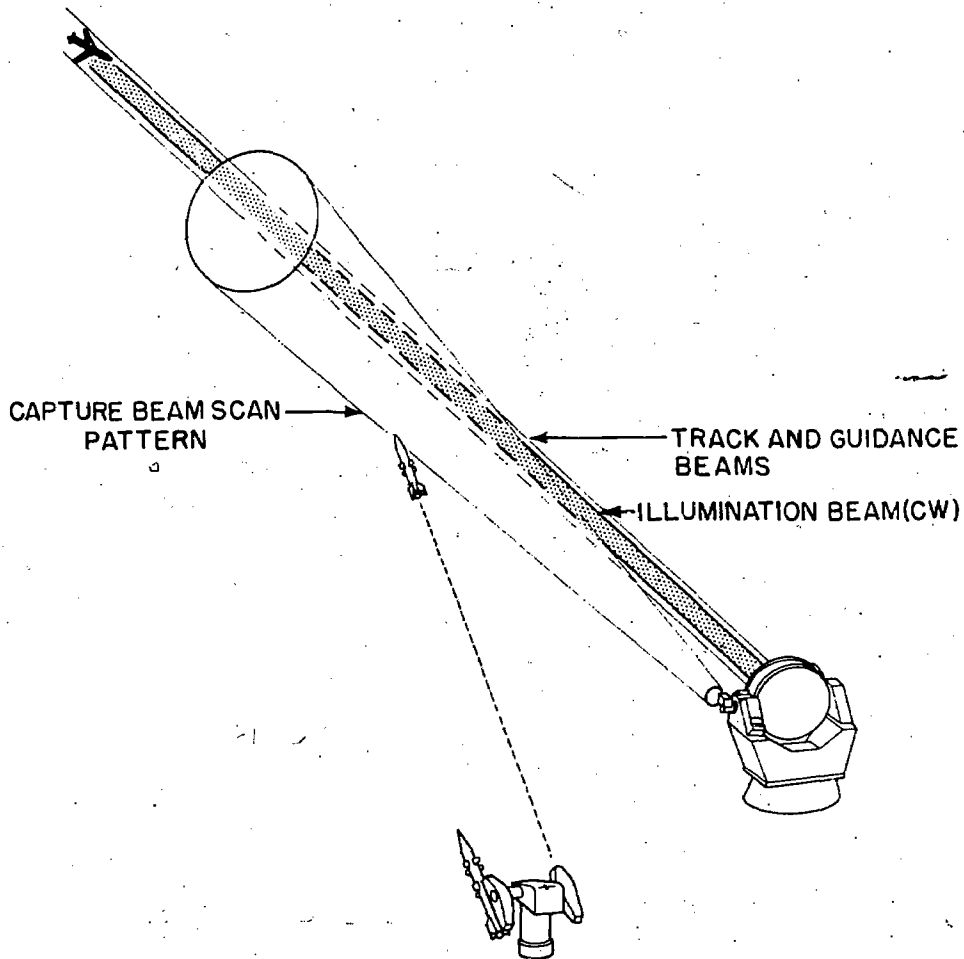

Figure 9-12.—Missile fire control radar.
The radar has four radar transmitter: (1) track, (2) capture (3) guidance, and (4) an illumination transmitter. It also has two antennas: a main antenna (the large one in fig. 9-1), and the small capture antenna (fig. 9-12).
**TRACK TRANSMITTER.**—The track transmitter generates a very narrow beam which is used to search for, acquire, and then to track a target (fig. 9-12). Earlier you learn that the radar set is assigned (designated) a selected target by the DAC operator. Initially the targets were picked up by the search radars. There may be one, two, or many targets. The search radars measured their range and bearing, and, depending on the radar, the elevation. The search radar target information is fairly accurate, but it is not accurate enough to solve the fire control problem. Fire control radars are precise measuring devices. Target range and bearing measured by a fire control radar are extremely accurate. But these radars suffer from lack of power. They can detect targets only at relatively short ranges. Search radars are much more powerful than fire control radars.
**CAPTURE TRANSMITTER.**—The capture transmitter produces a wide, cone-shaped beam (fig. 9-12) for controlling the first moments of controlled flight of the beam-riding Terrier missiles. The capture beam is transmitted from the small antenna you see alongside the main antenna in figure 9-1. The capture problem and beam-riding guidance techniques were discussed in the preceding course. *Gunner's Mate M (Missiles) 3 & 2*, NAVTRA 10199, so we will not dwell on these subjects here. The basic capture holds for both Talos and Terrier beam rides. You might keep in mind that Talos beam riders
**ILLUMINATOR TRANSMITTER.**—The flight sequence of the HT-3 missile is different from that of the beam-rider Terrier. Homing Terriers carry a small radar receiver which picks up radar energy reflected from the target and homes in on this energy. The illuminator transmitter on the AN/SPG-55 generates a very narrow beam of radar energy. This beam is smaller than the tracking beam (fig. 9-12). After booster drop-off, and after the missile's guidance system is cut in, the homing missile seeker head receives